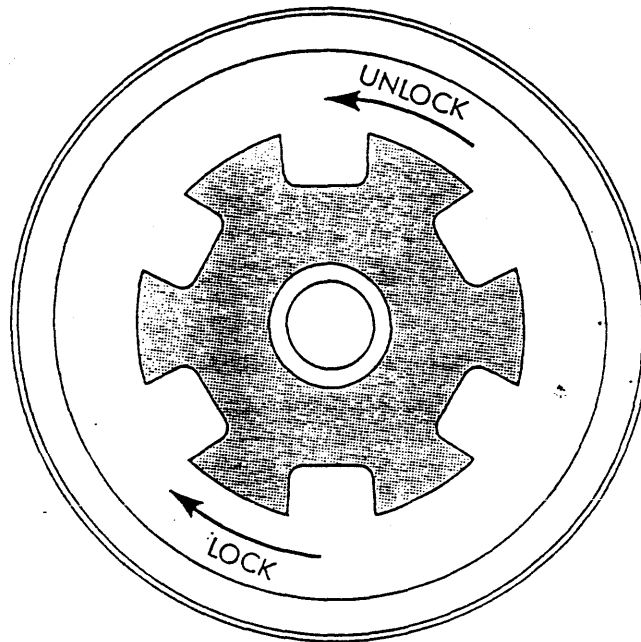

FIGURE 4.6.4.2 SUPPLY HUB TOGGLE (FROM UNDERSIDE)
- (vi) Load the supply hub into the body of the tool (see Figure 4.6.4.3). Check that the hub is fully located all around the edge of the tool to ensure a true height setting.